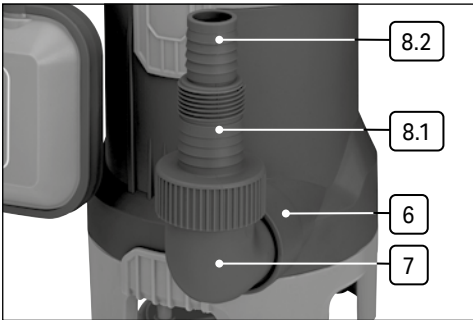
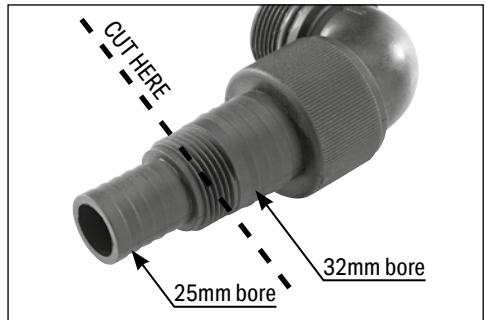

Fig. 1
Fig. 2
### 6.1 Fitting the Outlet Connector and Hose Adaptors (Fig.1 - Fig.2)
- Cut through the threaded section of the narrower end (Fig.2), then slide the hose onto the larger grip.